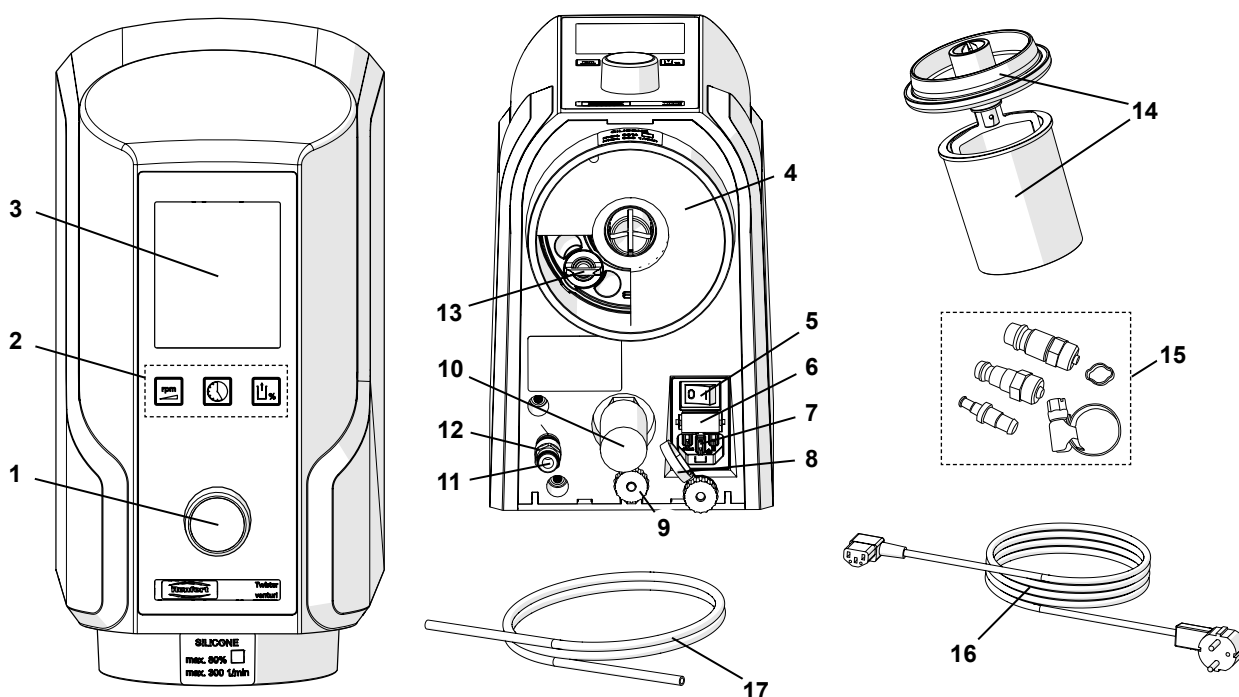

Fig. 1
- ⇒ Select the proper coupling from the set (15, Fig. 1) provided and install it